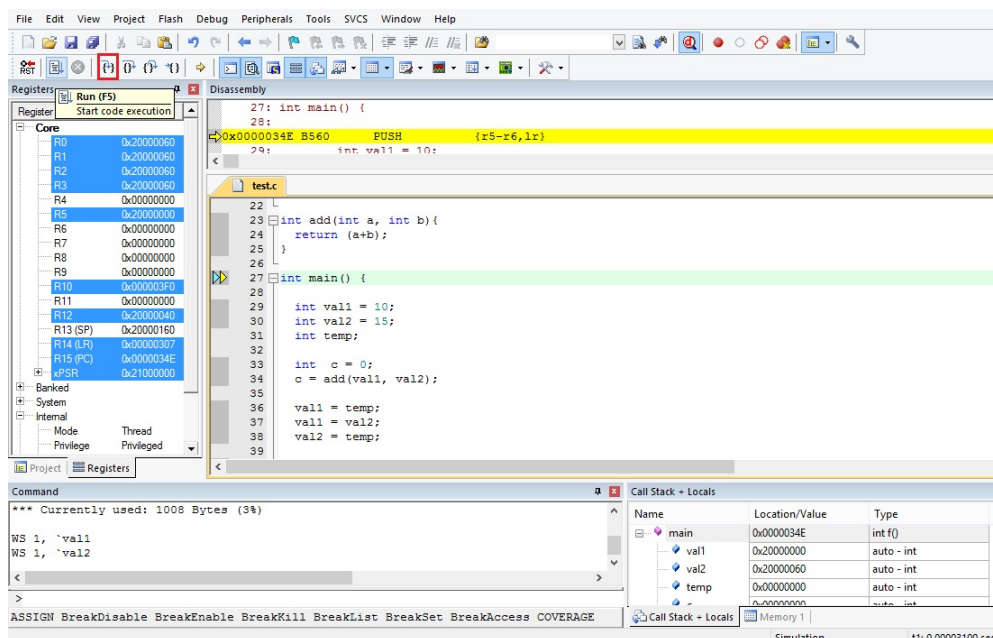

Figure 1.18: Debug window in Keil
10. Open your uVision to full screen to have a better and complete view. In Figure 1.18 the left hand side window shows you the registers and the right side window shows the program code. There are some other windows open. You may adjust the size of them to see better. Run the program step by step as shown in, you can observe the change of the values in the registers. Click on the *Start/Stop Debug Session* again to stop executing the program.